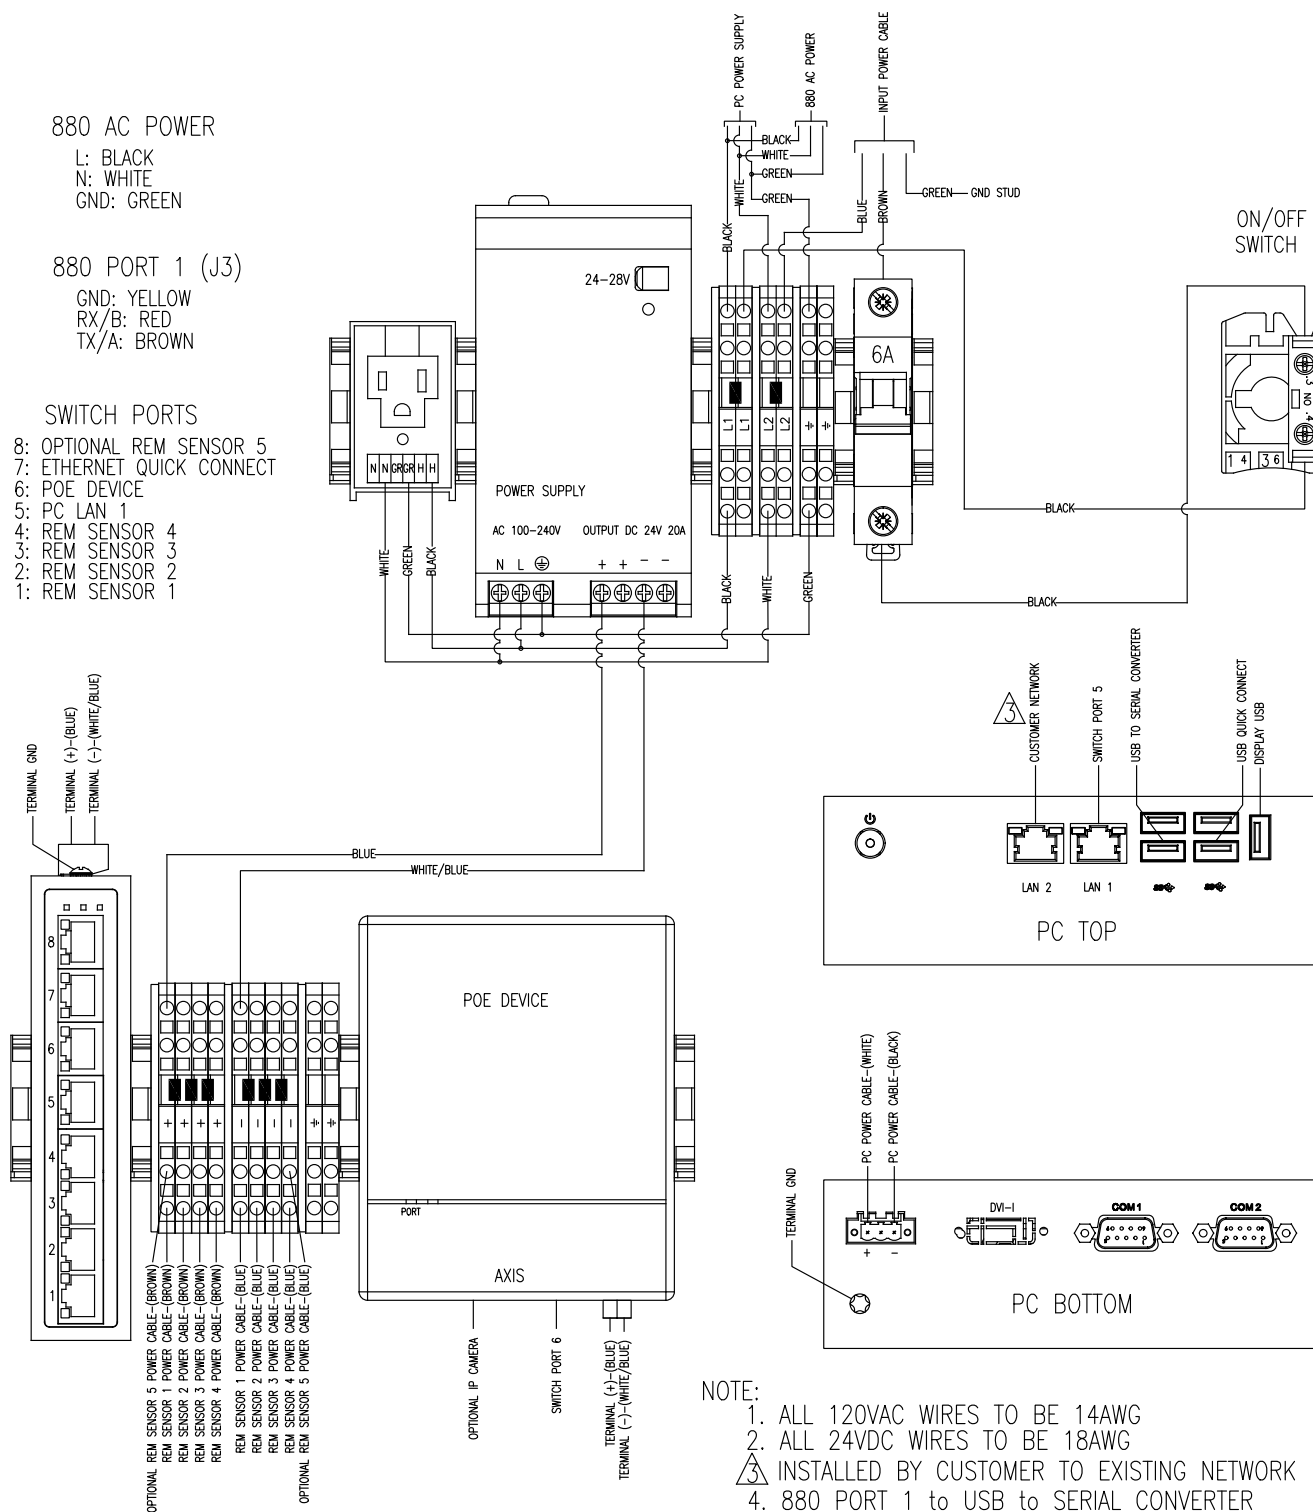
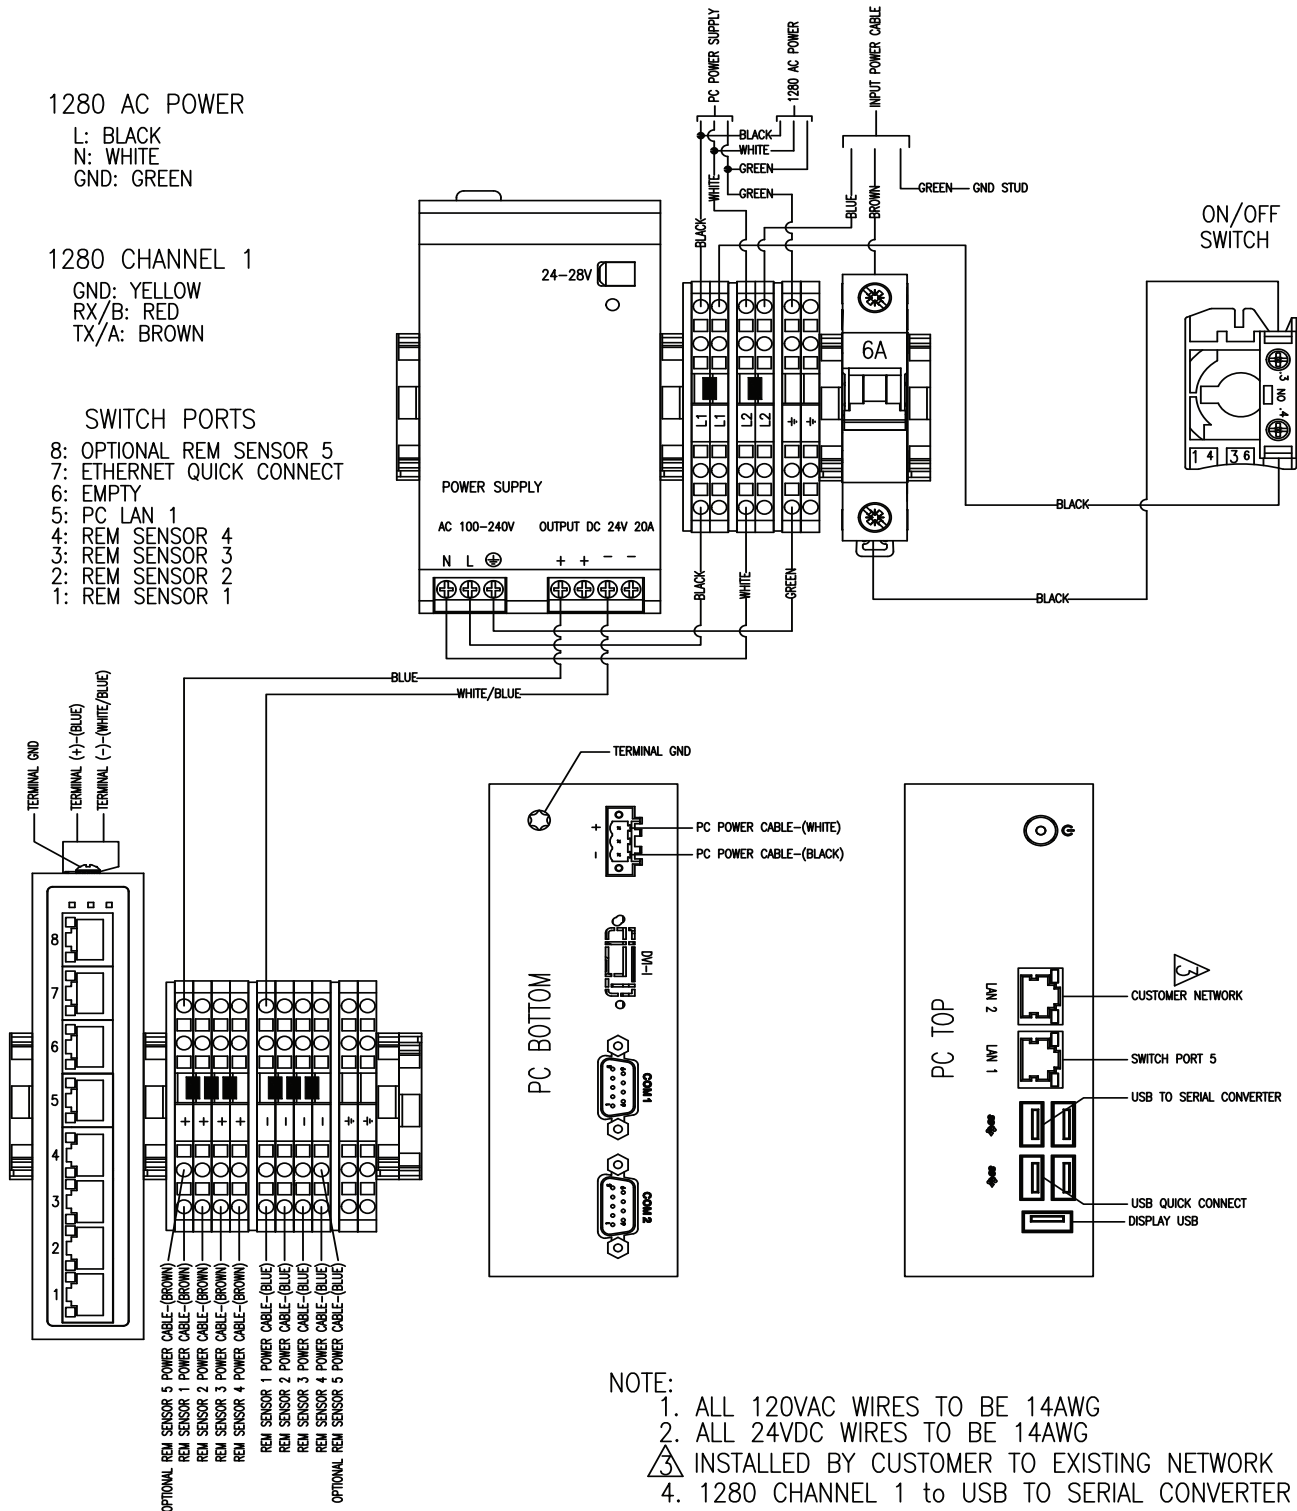

Figure 3-20. 880 Wiring Diagram
Figure 3-21. 1280 Wiring Diagram
8. Strip and wire the SUMMIT 3000 scale homerun cable to the indicator (Figure 3-20 for 880 Indicator and Figure 3-21 on page 27 for 1280 Indicator).